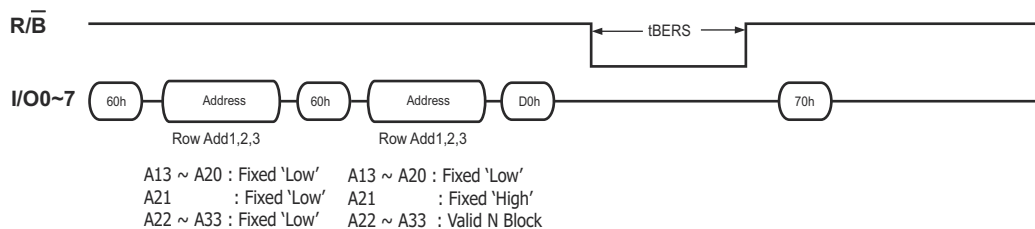

**Figure 25: Multiple plane block erase (traditional protocol)**
Same restrictions on address of blocks on plane 0(A) and 1(B) and allowed commands as **Figure 25** apply